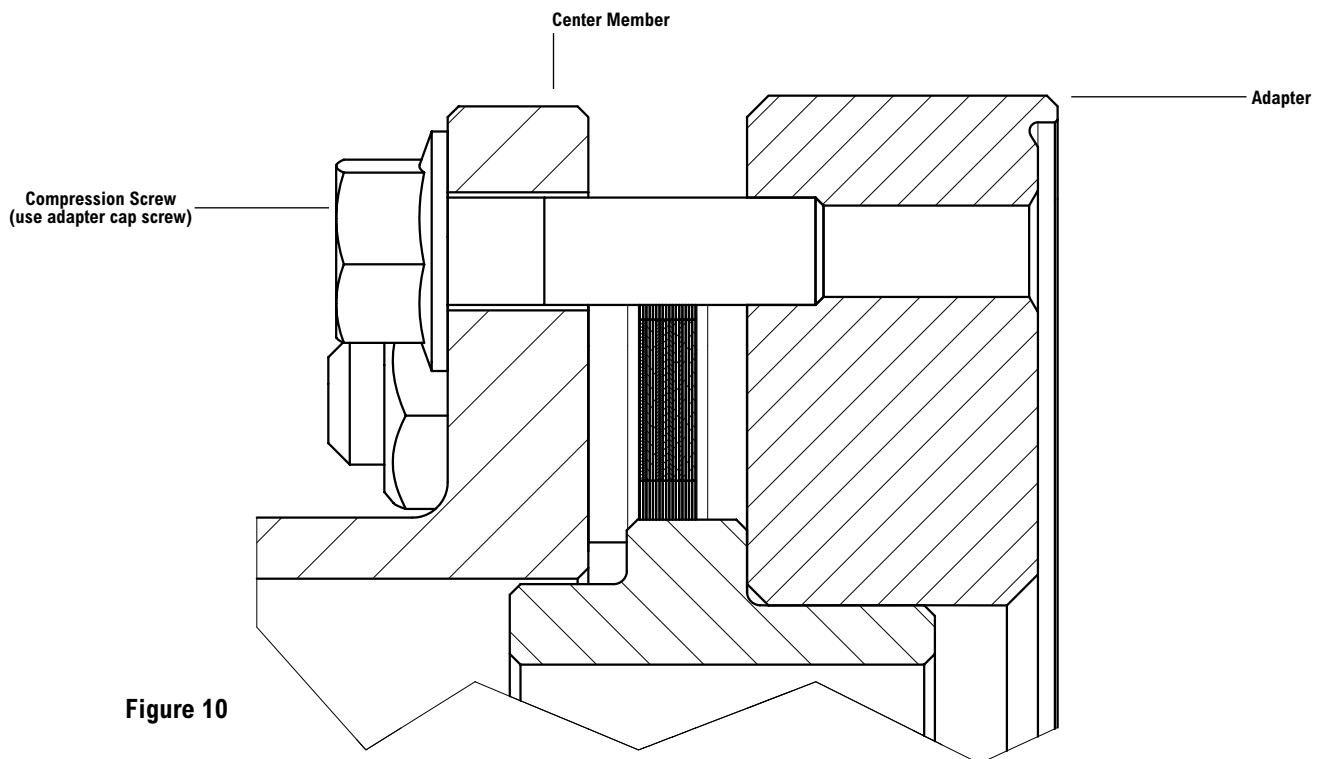

Figure 10
Use the hub to adapter cap screws (provided) as defined in Figure 2 and Table 4 to compress the center member assembly by inserting them through the holes in the flanges of the center spool and threading them into the adapter tapped holes as shown in Figure 10.
9.1 Remove the center member subassembly by removing all cap screws from hubs to compress the center member assembly by inserting them through the holes in the flanges of the center spool and threading them into the adapter tapped holes as shown in Figure 10 and dropping the center member assembly out from between the hubs. There are jacking screw tapped holes in each end hub to disengage the pilots between the hubs and adapters, using the hub to adapter cap screws as defined in Table 4.
- 10.2 With a fully assembled spacer assembly, use 6 on a 6 bolt and 8 on an 8 bolt disc pack, the adapter hub to adapter cap screws provided as defined in Figure 2 and Table 4 to compress the center member assembly by inserting them through the holes in the flanges of the center spool and threading them into the adapter tapped holes as shown in Figure 10.